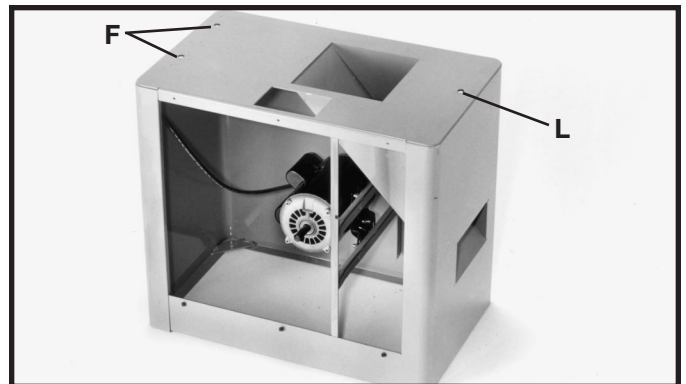
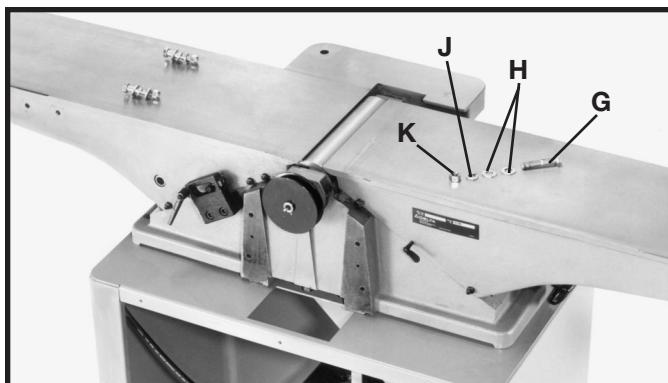

Fig. 6
Fig. 7
4. Turn the stand over so that it is resting on its base as shown in Fig. 6.
5. Line up three holes (F) and (L) Fig. 6, on top of stand with three holes located at the bottom of the jointer base. Place a 3/8" flat washer (H) Fig. 7, on a 3/8-16x2" hex head screw (G), insert the screw through the hole in the base of the Jointer and hole (F) Fig. 6, in the stand. Place a 3/8" flat washer (H) Fig. 7, 3/8" lockwasher (J), and thread a 3/8-16 hex nut (K) onto the screw and tighten securely. Repeat this process for the remaining hole (F) in the stand and Jointer base. Repeat this process for hole (L) in the stand and Jointer base by inserting the screw up through hole (L) in the stand and the Jointer base.